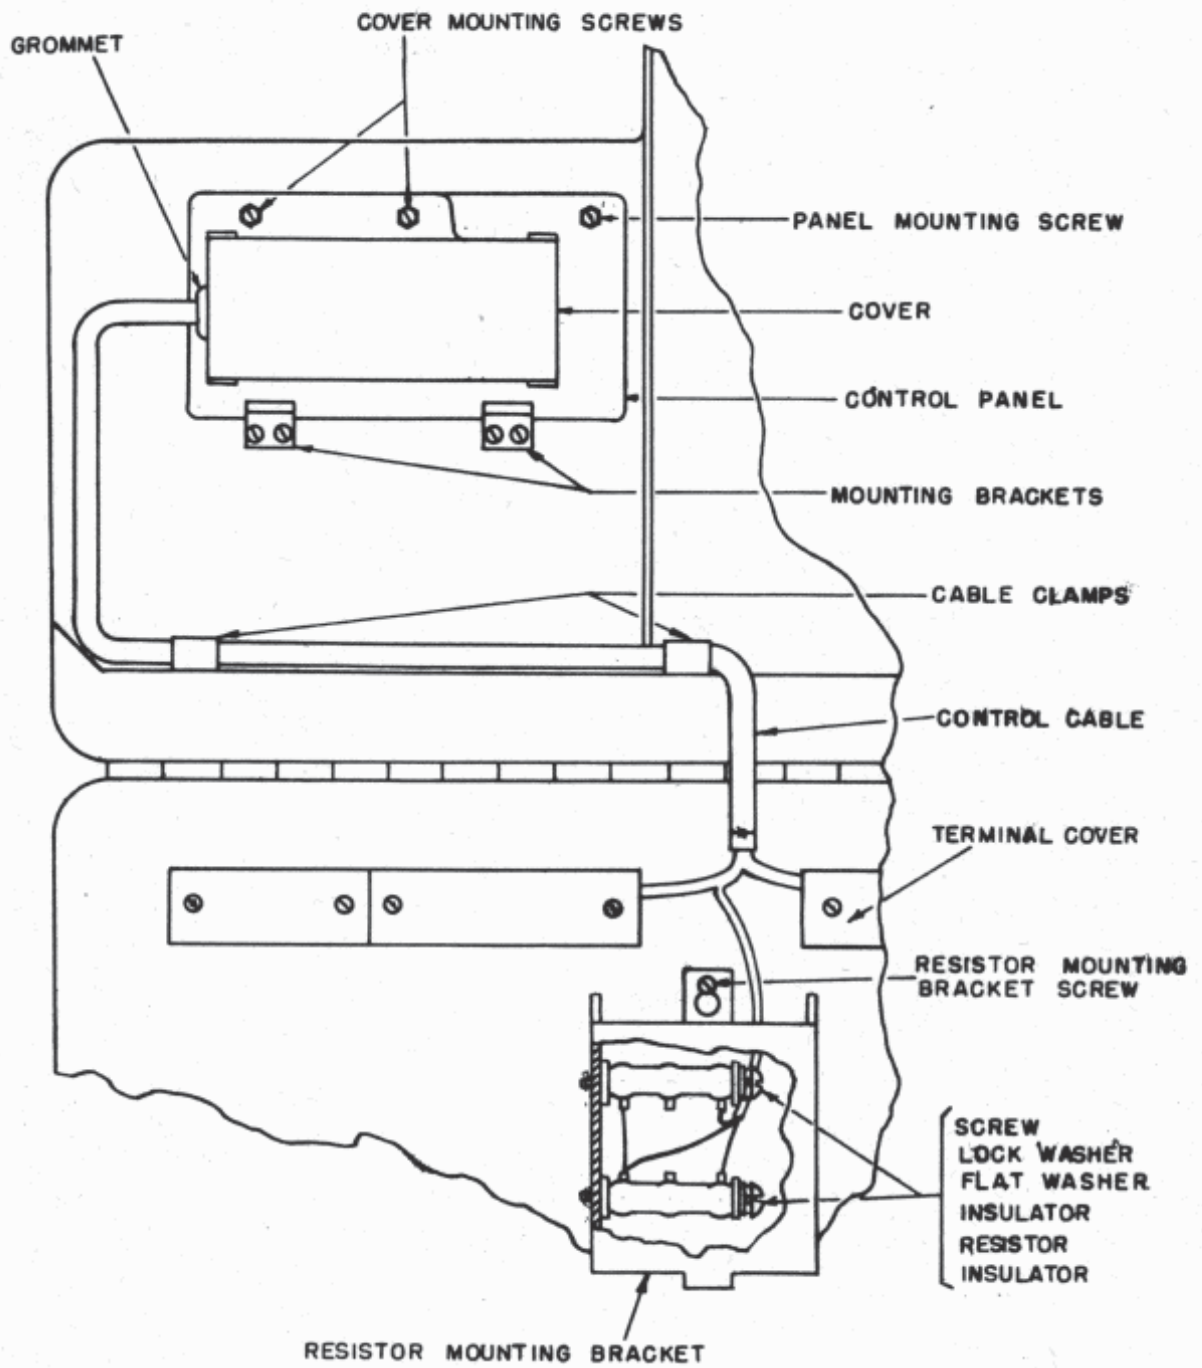

FIGURE 1
a. Mount the two mounting brackets with the four filister head screws furnished, as shown on Figure 1.